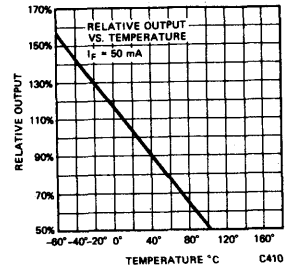

Fig. 3. ROP vs. Temperature (Note 1)
1. The curves in figure 3 are normalized to the power output at 25°C to indicate the relative efficiency over the operating temperature range.